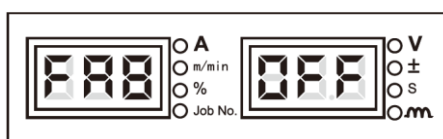

Figure 3-38 Screen for FA8 display
1. Enter the internal menu, adjust the knob on the panel of welding power source to **FA8**, the digital tubes will display as shown in Figure 3-38.